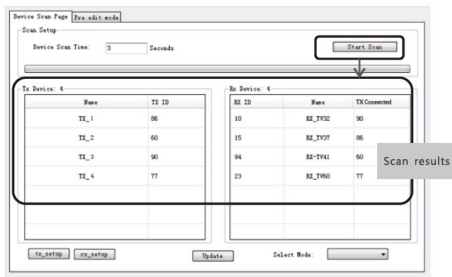

Figure 3
1. Click Start Scan to open the editing window, see Figure 3.